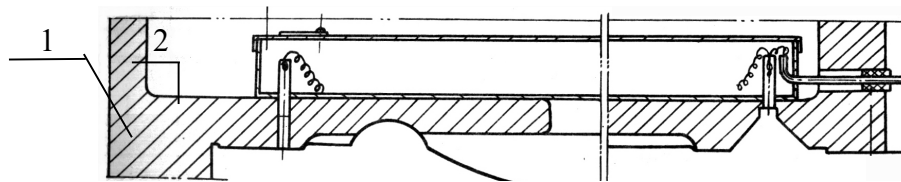

Fig. 31 Lubricating oil box for carriage
- 2) There is a oil box (1) the carriage. Open the cover (2), fill oil in the box until it is full of oil, the close the cover (2) (see Fig. 31).